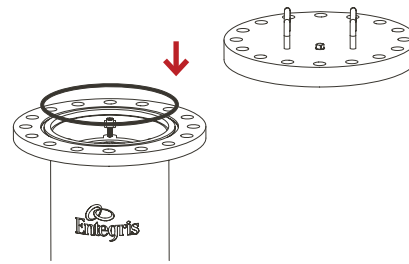

Figure 13.
2. Carefully remove the top flange of the housing and ensure the housing O-ring is seated properly on the cartridge O-ring grooves, Figure 13.